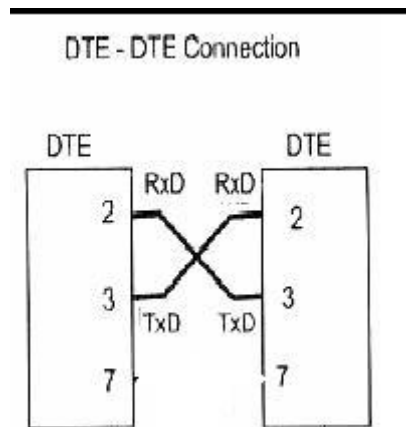

Figure 7 DTE - DTE Connection
3. Connect two computers together through serial port (as in the figure 7) and run the program in Task 2 in the two Computers what is the result? Change the baud rate on one computer to be 2400 and in the other to be 9600. What is the result? Why? (for simplicity you can do this task using one computer, how?)